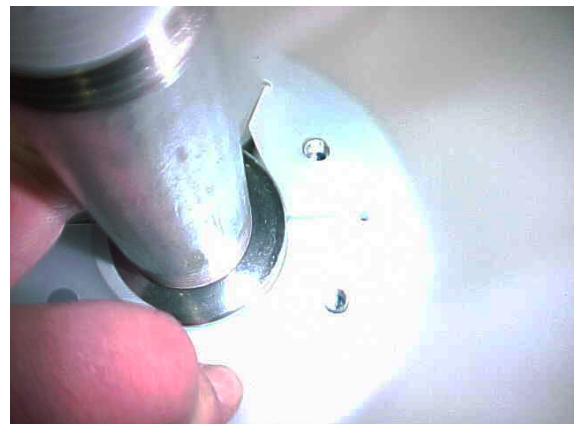

Figure 2: Place Bladder on Flange
7. Remove the (6) 1/4-20 bolts from the bladder flange (9940).
9. Replace bladder by fitting the new bladder's end opening around the flange (Figure 2).